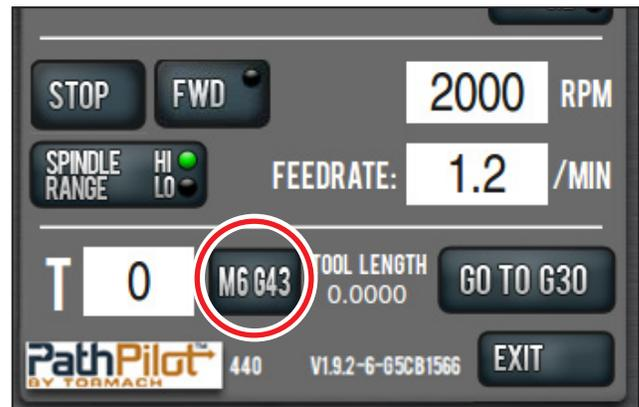

Figure 5.5
2. Type 0 in the tool DRO and press the *M6 G43* button to tell the PathPilot operating system that we are changing tools and applying a tool length offset. Tool zero represents an empty spindle, and there is no offset to apply. We press the *M6 G43* button to make sure there is no tool length offset applied before we set the work offset (see **Figure 5.5**).
7. Type 2 in the tool DRO and click the *M6 G43* button (see **Figure 5.5**).